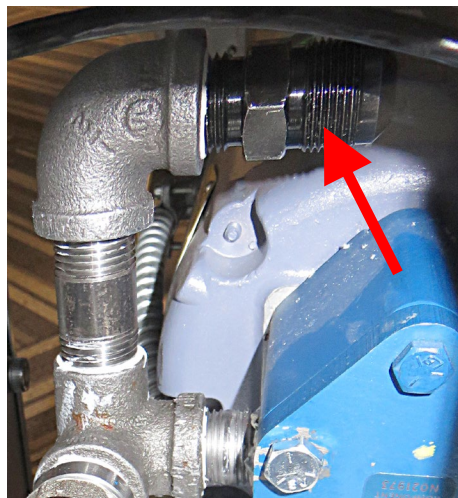

Figure 22
25. Attach flexline adaptor (8101668) to elbow in previous step and orient as shown (see Figure 22).